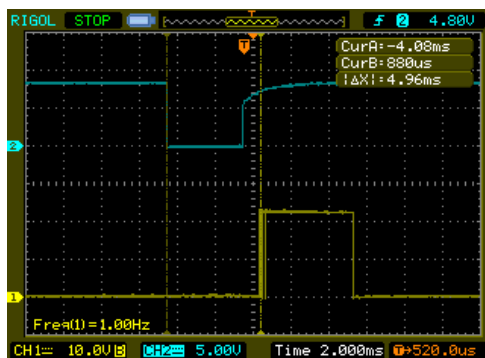
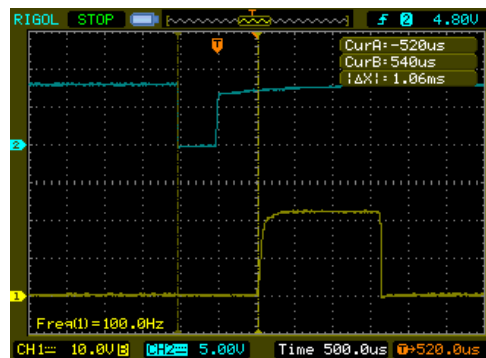

Fig. 1a Type PK output response.
Fig. 1b Type OPTO output response.
In above pictures is shown minimal required duration time of input pulse which gives response on the output. In case of relay version (Fig. 1a) it is about 4ms. For version optorelay (Fig. 1b) it is about 0.5ms. Cursors CurA and CurB show delay time between output response and input pulse. For relay it is about 5ms, and for optorelay about 1ms.
- Min. required time of input pulse: details in Fig. 1a and 1b